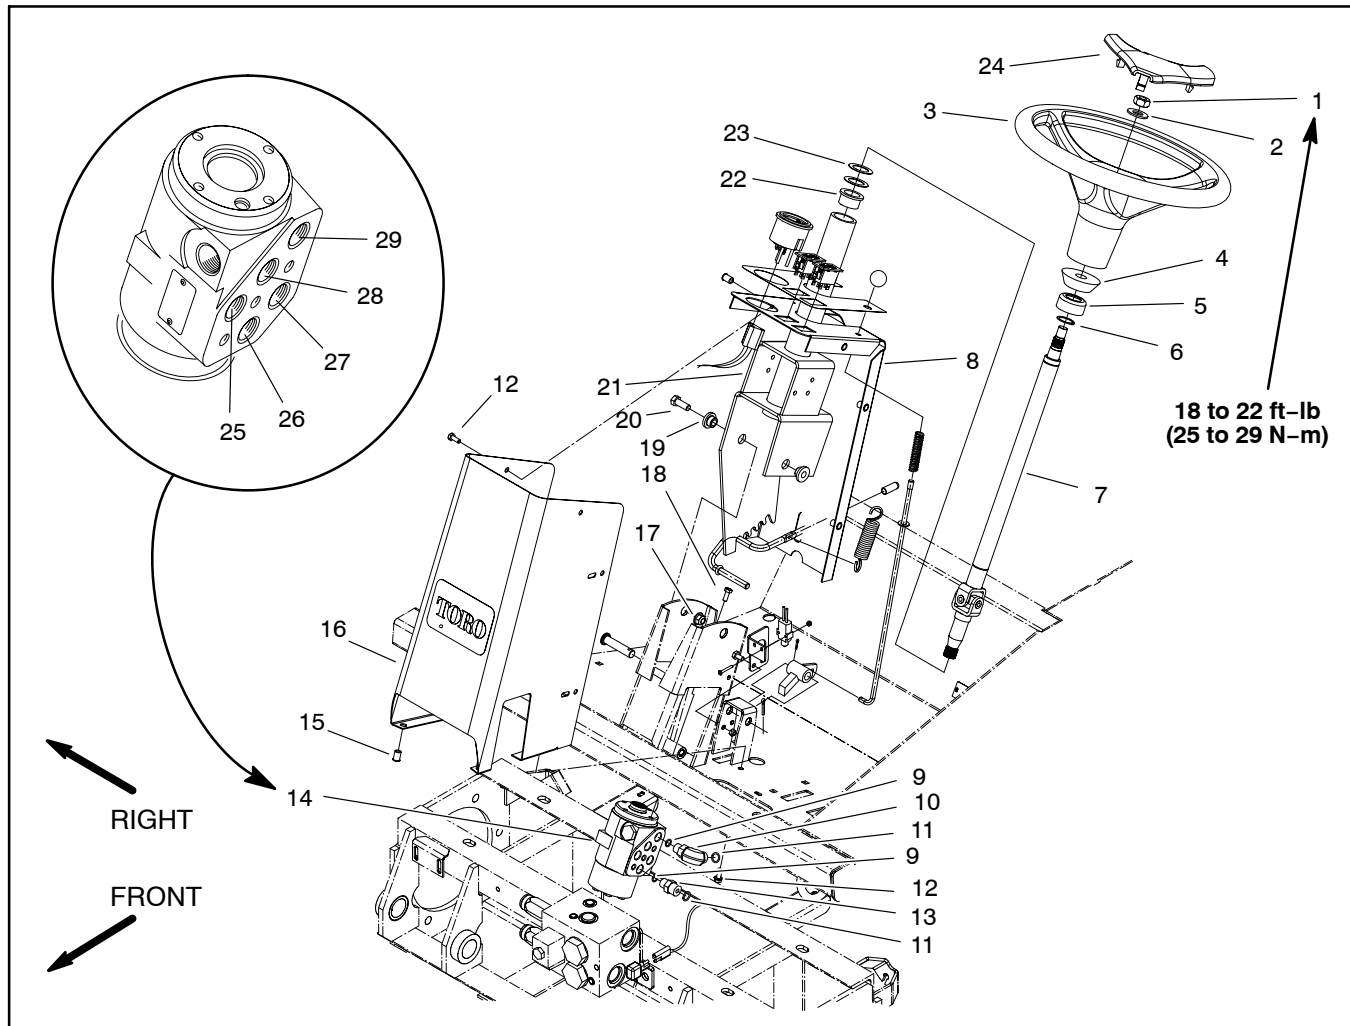

Figure 71
Removal (Fig. 71)
3. Remove steering valve from machine using Figure 71 as a guide.
Installation (Fig. 71)
1. Install steering valve using Figure 71 as a guide.